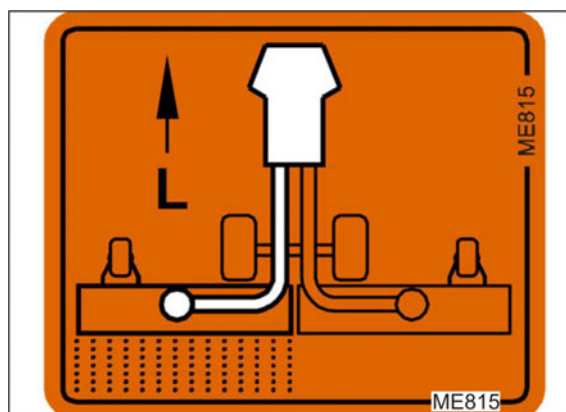

Fig. 194
3. Throw the lever to the right (Fig. 194/1) and lock it: